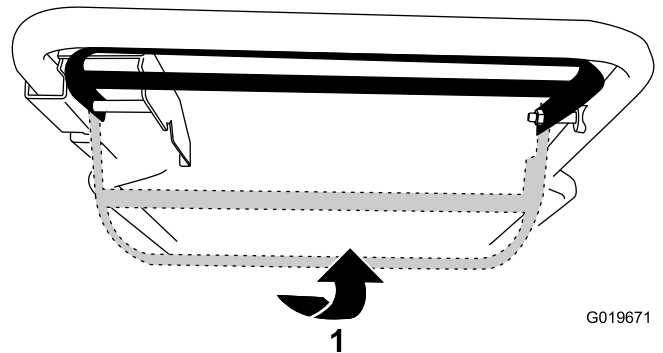

Figure 18
- **To operate the self-propel drive without engaging the blade:** Raise the blade-control bar to the handle (Figure 18).